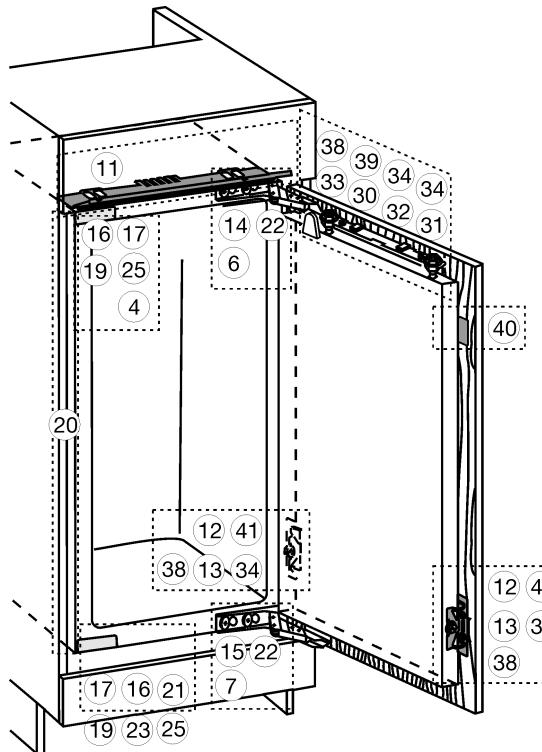
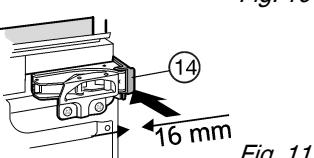
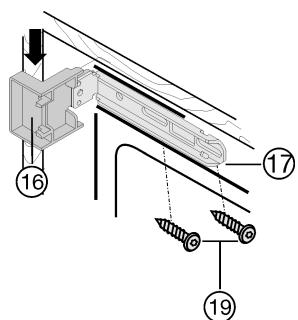
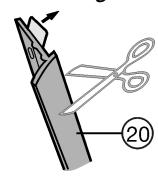

Fig. 7
Fig. 11
Fig. 12
Fig. 13
► Remove the covers Fig. 7(4,6,7).
► Clip spacer Fig. 11 (14) and spacer Fig. 7 (15) onto the hinges.
► Attach the top cover Fig. 12 (16) and the bottom cover Fig. 12 (17) to the mounting brackets.
► Fasten the top mounting bracket Fig. 12 (17) with screws Fig. 12 (19) and the bottom one with screws Fig. 7 (19) so that the brackets can still be moved a little to the left and right.
► Strip the protective film off the cover trim Fig. 13 (20).
► Apply the cover trim Fig. 13 (20) to the projection of the cover Fig. 12 (16) on the handle side, flush with the front, and adhesively affix it to the side wall of the appliance.
► If necessary, shorten the cover strip Fig. 13 (20) at the bottom: The cover strip Fig. 13 (20) has to end 3 mm above the upper edge of the lower mounting bracket Fig. 7 (17).
► Slide in the appliance until the covers Fig. 12 (16) abut Fig. 12 against the side wall of the kitchen unit.
► Allow for the extra distance (depth of the door stop components): Allow hinges and covers Fig. 12 (16) to protrude by the extra distance.
► Vertically align the appliance by means of the height-adjustable feet, using the accompanying open-ended spanner Fig. 7 (21).